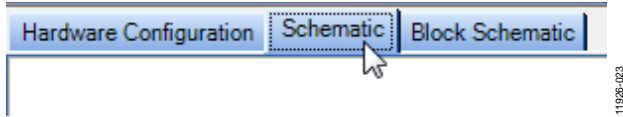

Figure 21. Schematic Tab
1. Click the **Schematic** tab near the top of the window (see Figure 21).